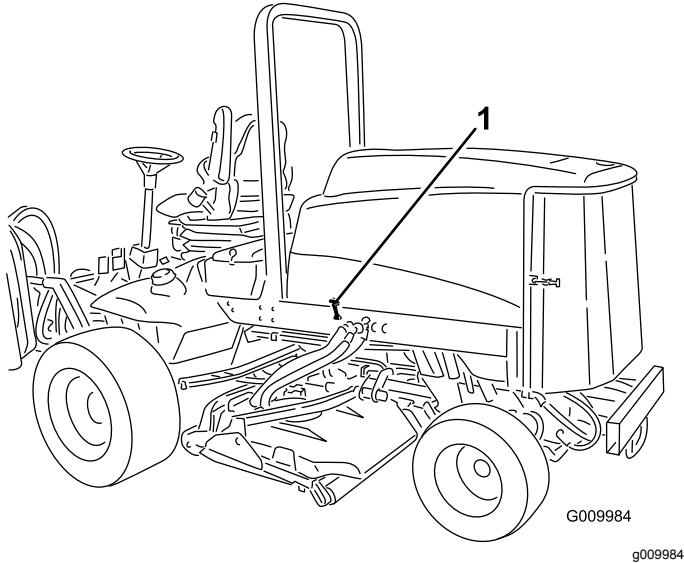

Figure 25
1. Release hood latches (Figure 25) and pivot open the hood.